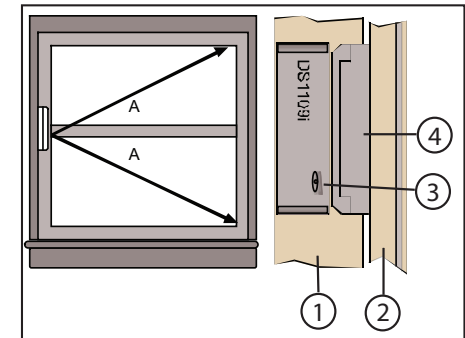

Figure 3.4: Single window coverage using the magnetic contact
- Make sure the detector is no farther than 10 ft (3 m) from the farthest corner of the glass (line A in Figure 3.4).